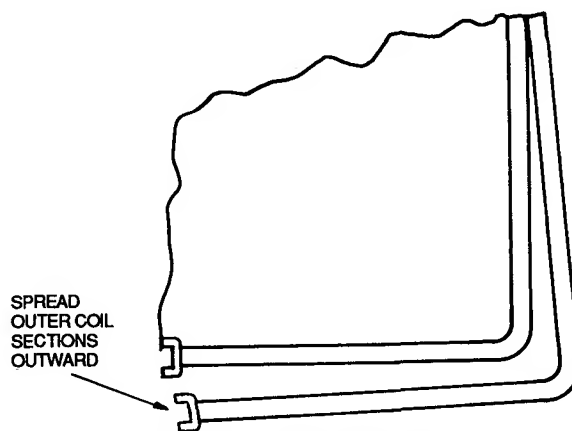

Fig. 11 — Coil Cleaning
3. Remove clips securing tube sheets together at the return bend end of the coil. Carefully spread the ends of the coil rows apart by moving the outer sections. See Fig. 11.